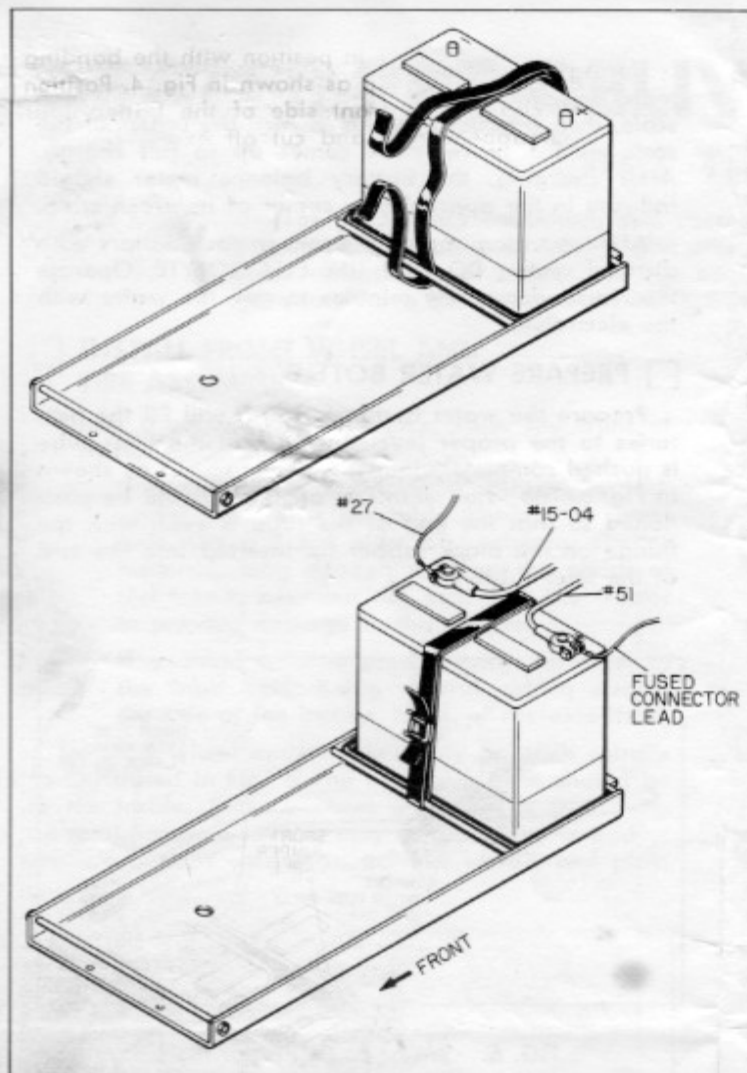

FIG. 4. Battery Installation, Upper Tray
4. Place the battery in the rear of the upper battery tray, between the two cross rods, as shown in Fig. 4.
5. Secure the battery in position with the banding material and a clip as shown in Fig. 4. Position the clip on the front side of the battery, for neat appearance, and cut off excess banding material.
6. Connect wiring harness battery cables, wire #27, and the fused connector lead as shown in Fig. 4.